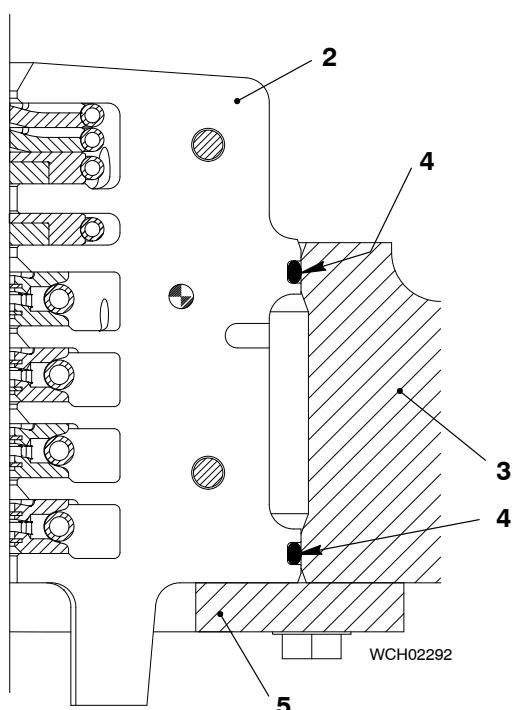

Fig. 11
- 1) Apply lubricating oil to the opening in the cylinder jacket (3) and to the area of the O-rings (4) on the housing (2, Fig. 11).